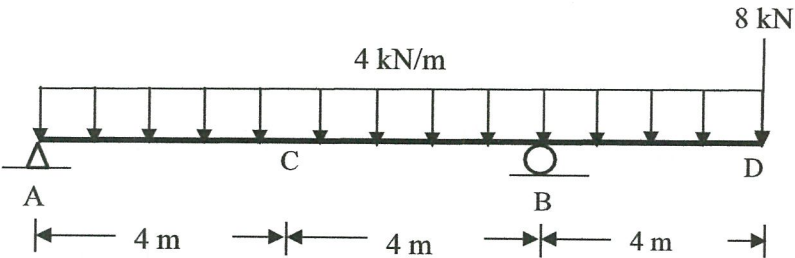

FIGURE Q4
- (c) The beam in **Figure Q4** is subjected to a single concentrated live load of 8 kN at point D, and a uniformed live load of 4 kN/m along the span.